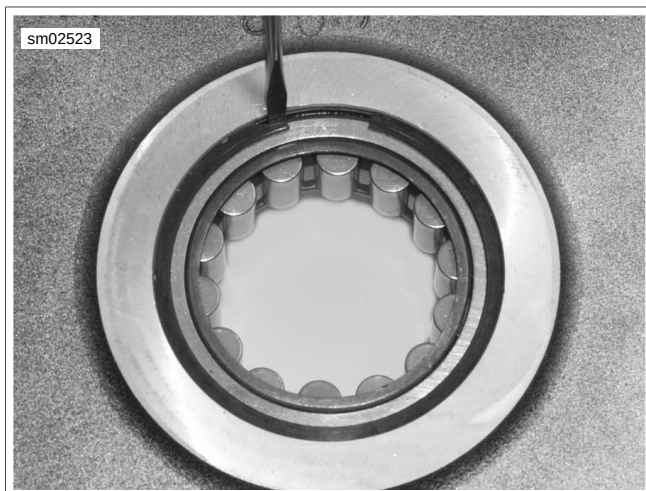

Figure 3-135. Removing Retaining Ring
5. See Figure 3-135. Using a flat blade screwdriver, carefully lift edge of bearing retaining ring up out of its groove in crankcase.